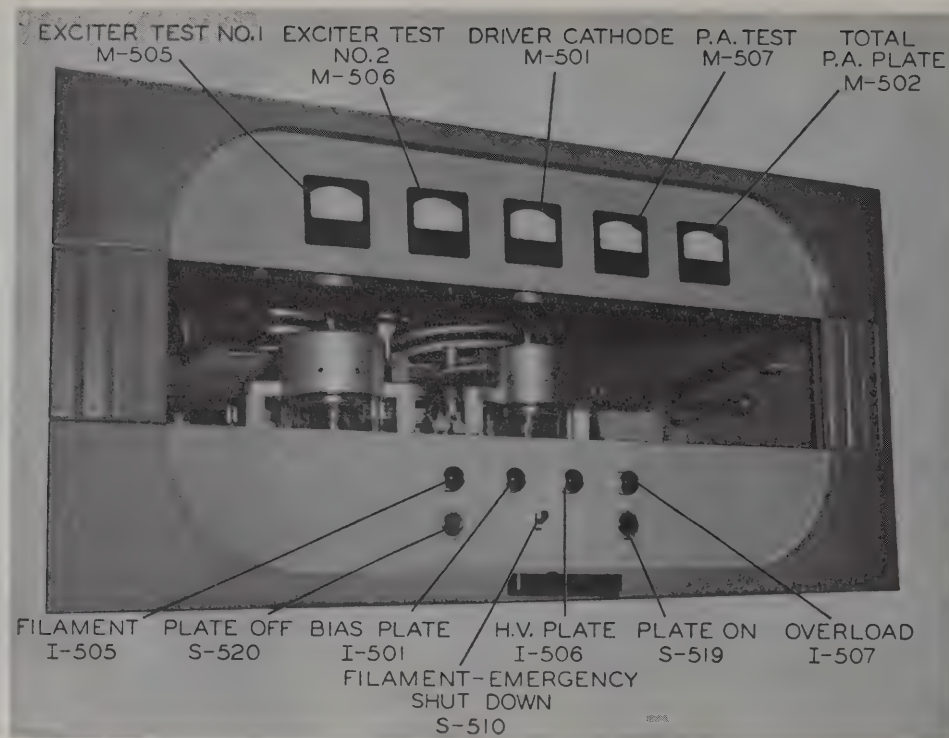

Figure 31. Upper Control Panel, Radio Transmitter T-454/FRT-26 Controls.
f. Radio Transmitter T-454/FRT-26 (figs. 31, 32, and 33).
f. Radio Transmitter T-454/FRT-26 (figs. 31, 32, and 33). (contd)